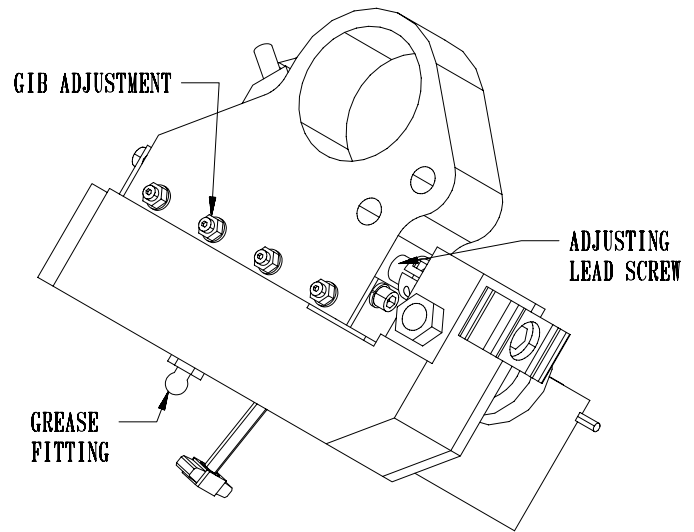

FIG. 6
2. Use the grease fitting provided to grease the dove tail with high quality lithium grease. Wipe off excess grease. See FIG. 6. This should be done monthly.
3. Wipe and re-oil with spray lubricant, the grinding wheel diameter adjusting lead screw. This should be done every three months. Wipe off all excess lubricant. See FIG. 6.